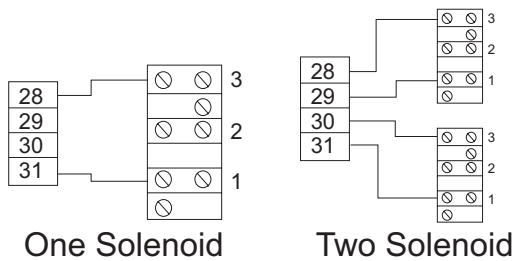

Figure 4. Release circuit used to fire solenoid control head(s), P/N 890181
- Release devices: See Figures 4 and 5 for wiring.